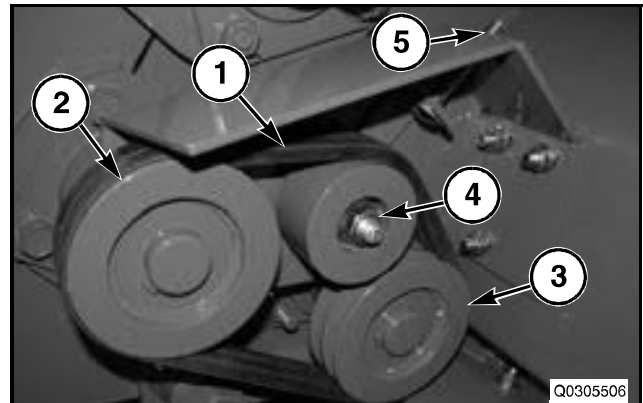

FIG. 7
FIG. 7: Check the tension of the helper roll drive belts (1) between the drive pulley (2) on the lower hay conditioner roll, and the helper roll pulley (3). The tension is correct when there is 3 mm (0.12 in) deflection at mid span with 14 N (3.1 lb) of force.